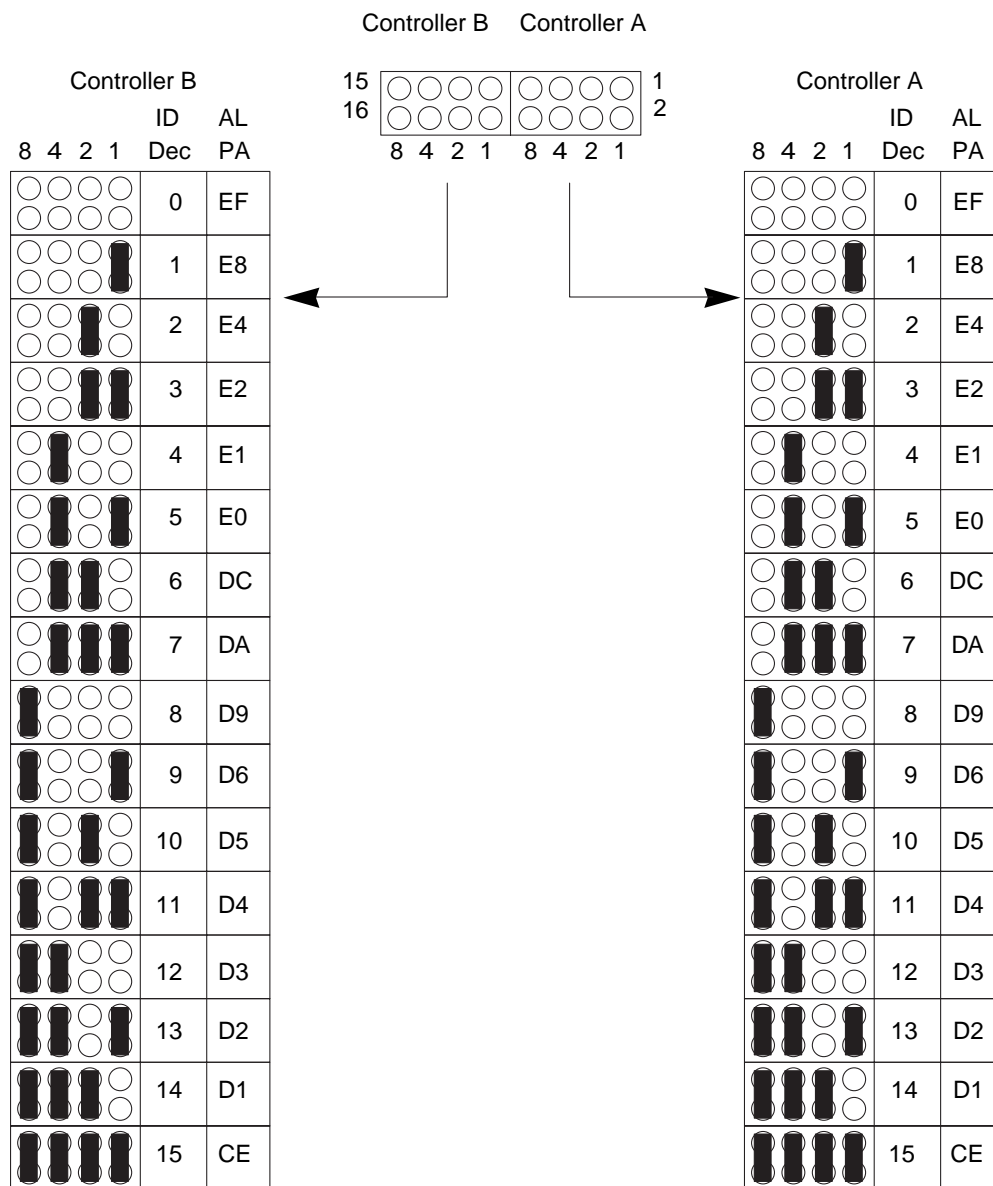

FIGURE 2-10 Controller Module FC-AL ID Settings
1. Locate the 16 pins on the rear of the FC-AL controller module (FIGURE 2-10).
2. Wearing the antistatic wrist strap, install jumpers on the pins, as shown in FIGURE 2-10.